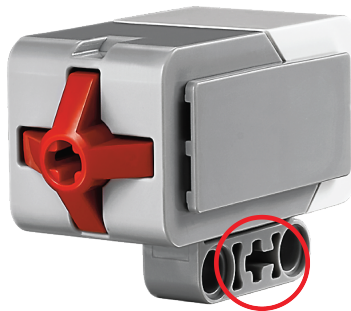

Figure 10: EV3 Sensor mount indicated by red circle.
3. Go to Help then Install New Software on the top menu bar(see Figure 10)